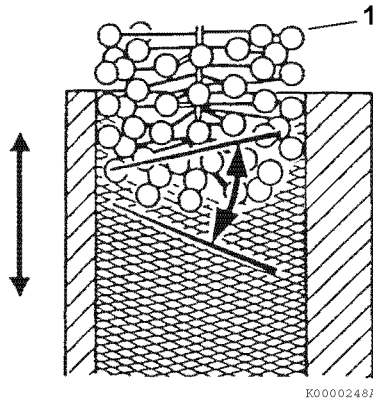

Figure 6-82
*Note: When honing a cylinder, with either a ridged hone or a ball hone (**Figure 6-82, (1)**), move the rotating hone up and down in the cylinder bore to accomplish a 30° to 40° crosshatch pattern (**Figure 6-82**). This will provide the ideal surface for the proper seating of new piston rings.*